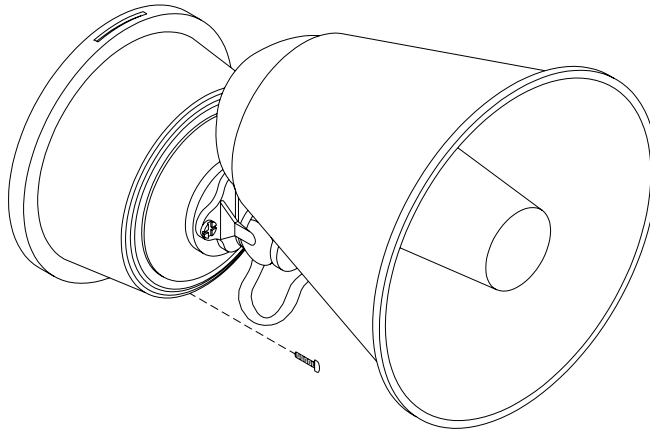

Figure 10 Horn Signal Mounting Plate Screw
11. Remove the horn signal mounting plate from the horn base by loosening the Phillips head screw on the base as seen in figure 10.